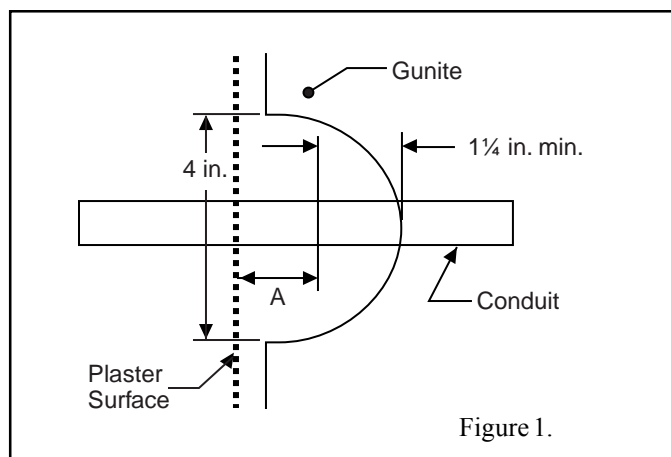

Figure 1.
- g. For gunite pools, the recessed cut back for lens housing should be as shown in Figure 1. Dimension "A" should be 1 in. for a FIBERworks Standard Gunite fitting, and 1½ in. for a FIBERworks Invisible Gunite fitting.